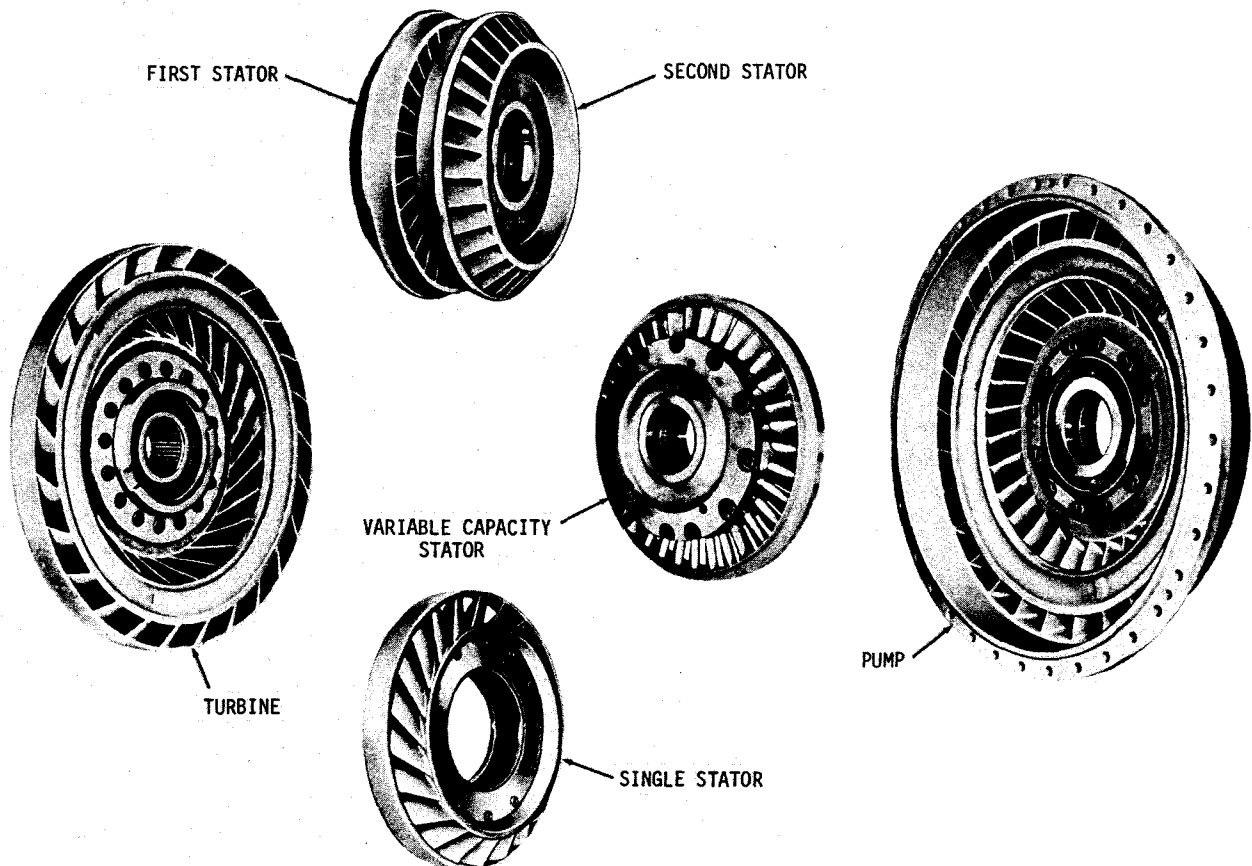

Fig. 1-6. Three- and four-element torque converter elements
(1) Three types of torque converters all of which are shown in a composite picture (fig. 1-6). The types are as follows:
(2) The 4-element converter is a single-stage, polyphase, unit, consisting of a converter pump, first and second stator, and turbine (fig. 1-6).
(3) The 3-element converter is the same as in (2), above, except it includes only one stator (fig. 1-6).
(4) The variable-capacity converter is the same as in (2), above, except for a single stator with piston controlled vanes (fig. 1-6).